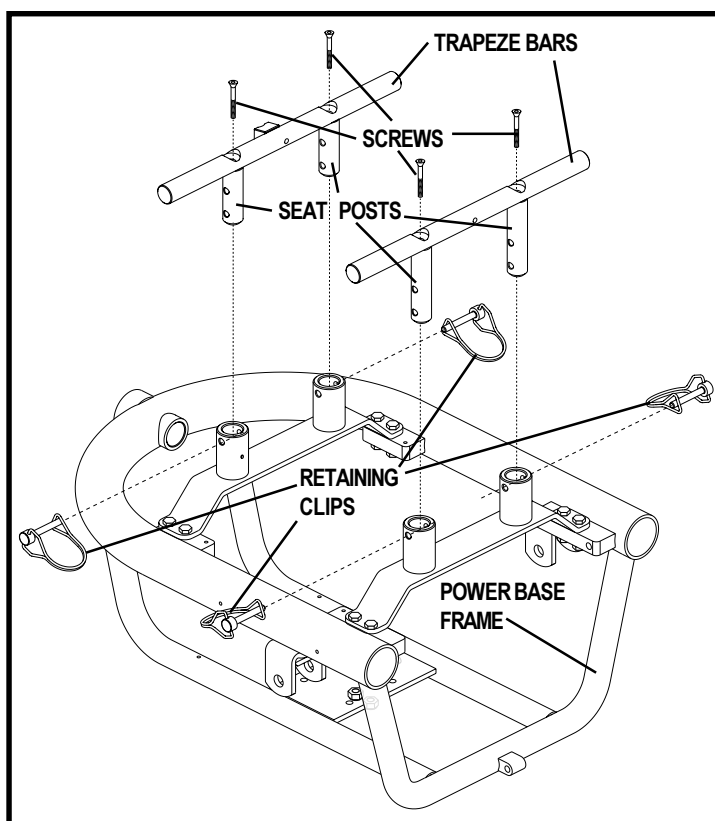

Figure 11. Trapeze Bars
7. Loosen the screws that attach the trapeze bars to the seat posts. See figure 11.
8. Remove the retaining clips that secure the seat posts to the power base. See figure 11.